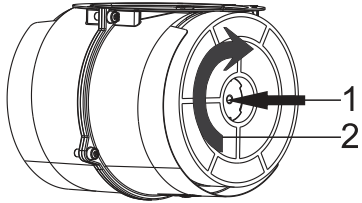

Fig 6: CARBON FILTER
1. Place the carbon filter in its housing. Fig. 6
2. Rotating the carbon filter clockwise, ensure that it is completely fit. Fig. 6